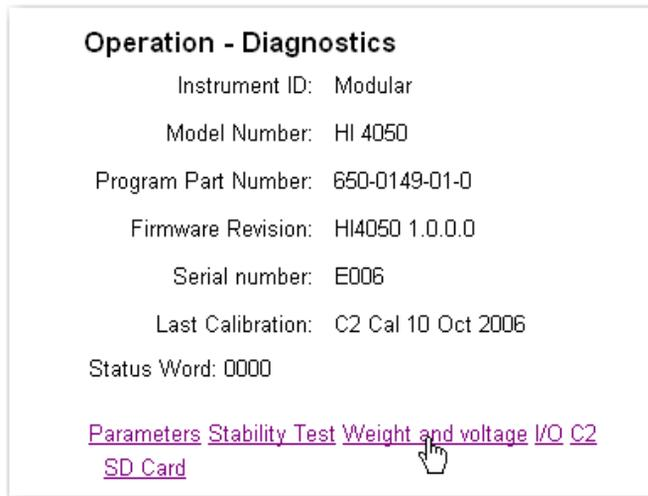
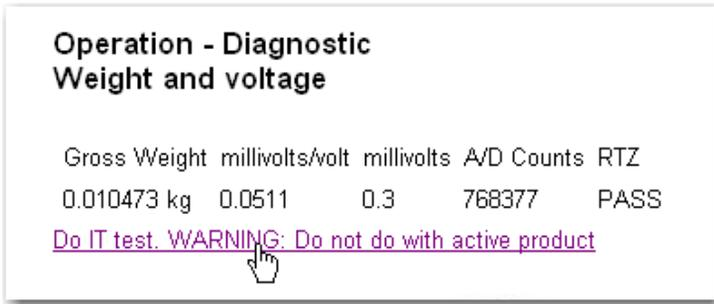

FIG. 419 OPERATION - DIAGNOSTICS/SELECTING WEIGHT AND VOLTAGE
FIG. 420 WEIGHT AND VOLTAGE/PASSED/SELECTING IT TEST
Step 10. Click on Weight and Voltage. (See Fig. 419) The Operation/Diagnostics - Weight & Voltage page appears. (See Fig. 420)